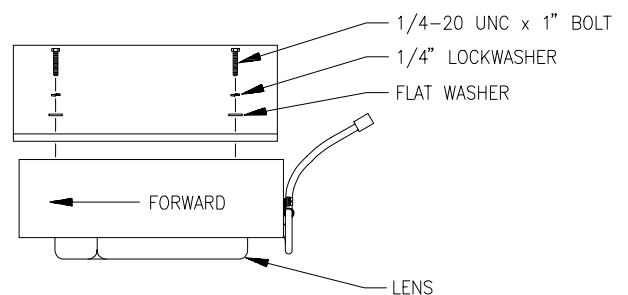

FIGURE 3
- 5) Bolt radar to mounting bracket using mounting hardware. See **Figure 3**.